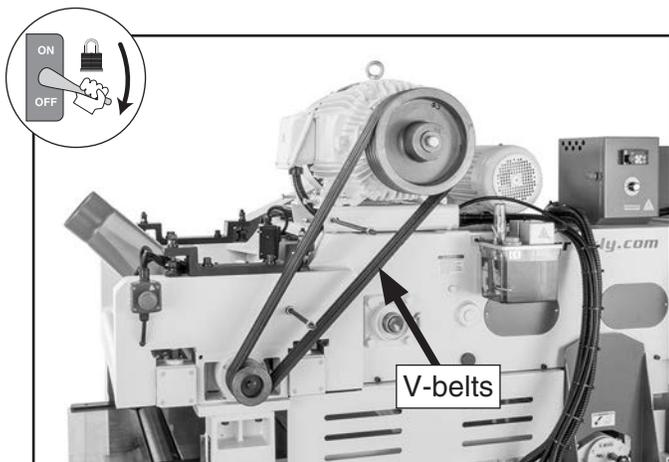

Figure 87. Location of upper cutterhead V-belts.
2. Remove upper cutterhead belt cover (see **Figure 87**).